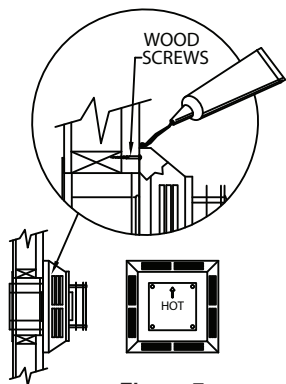

Figure 7
Step 4. Position the Horizontal Termination Cap in the center of the square framed hole, and attach to the exterior wall with the four wood screws provided. Before attaching the vent termination cap to the exterior wall, run a bead of non-hardening silicone sealant around it's outside edges to make a seal between the cap and the wall. The arrow on the vent cap should be pointing up. Ensure that proper clearances to combustible materials are maintained (**Fig. 7**).